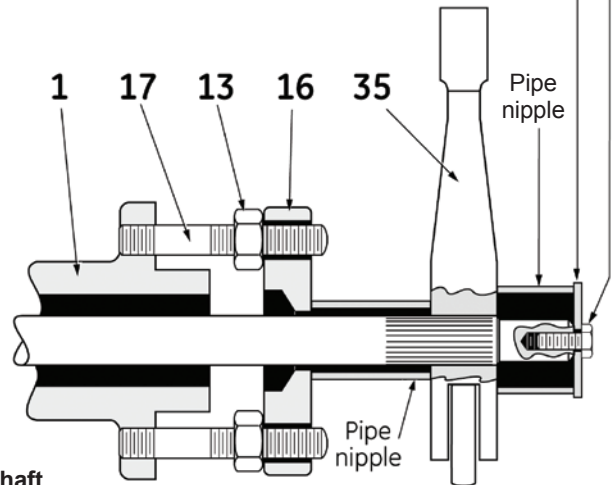

Figure 7
- b) **Also make sure that the arm (35) is in the correct position on the shaft. Refer to the markings made during disassembly. If parts have been replaced, assess their final relative position by holding them one in front of the other before fitting them. For this purpose, if the shaft or disk or both have been replaced and the two parts are not pinned together, remember to align the slot at the end of the shaft with the disk (the disk being locked in the closed position).**
7. Insert two identical shims between the disk and the valve body, on either side of the shaft (**except for valves equipped with a sleeve**). If a new disk and/or shaft has/have been fitted, pull the shaft until it shoulders on the ball bearing (25) using a washer of suitable dimensions and a socket head cap screw (dimensions given in Figure 7). Make sure that the slot at the end of the shaft is still aligned with the disk.